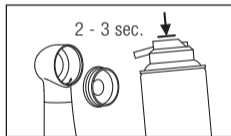

Fig. 38
- 5 Spray PANA SPRAY Plus into the head for 2 to 3 seconds. Also spray it briefly into the head cap (Fig. 38).